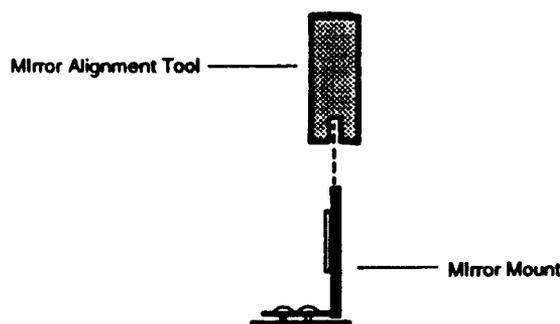

Figure 8: Adjustment of transfer mirrors
5. If the energy throughput is below 15%, begin to gently rotate the transfer mirrors using the aluminum alignment tool provided. (See Figure 8)